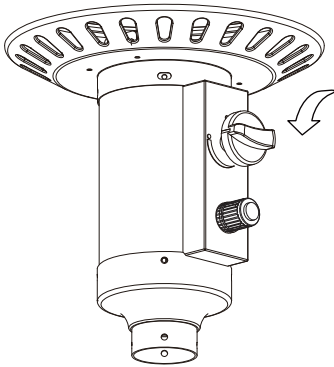

Figure 1
2. Press and turn the control knob to HIGH (maximum) position (counter clockwise 90°). (Figure 1)